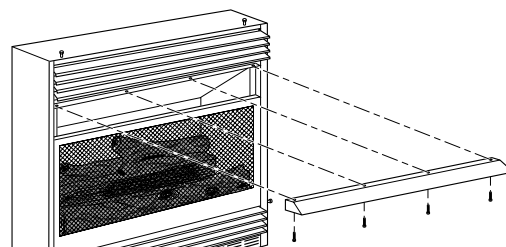

Figure 3 - Assembling Hood
3. Attach screws (see Figure 3).